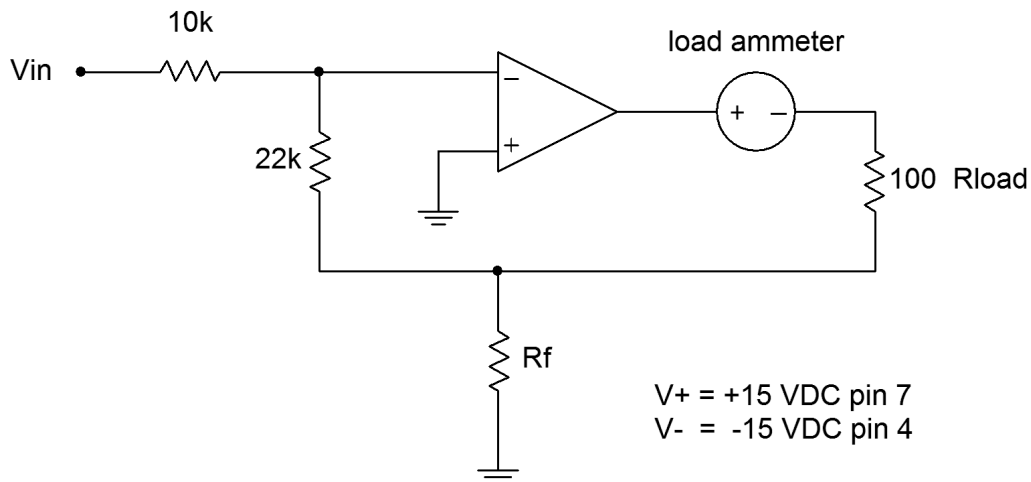

Figure 2
7. The gain of the current amplifier can be determined from  $R_i$  and  $R_f$ . Based on these values, calculate the expected  $A_i$  and  $I_{load}$  for the circuit of Figure 2, and record them in Table 3.
8. Assemble the circuit of Figure 2 using  $22k\ \Omega$  for  $R_f$ .
12. Utilizing the circuit of Figure 2, suppose that all of the results found in Table 3 are approximately 10 times smaller than they should be. Consider and test at least two plausible causes for this scenario, and include the results in the technical report.